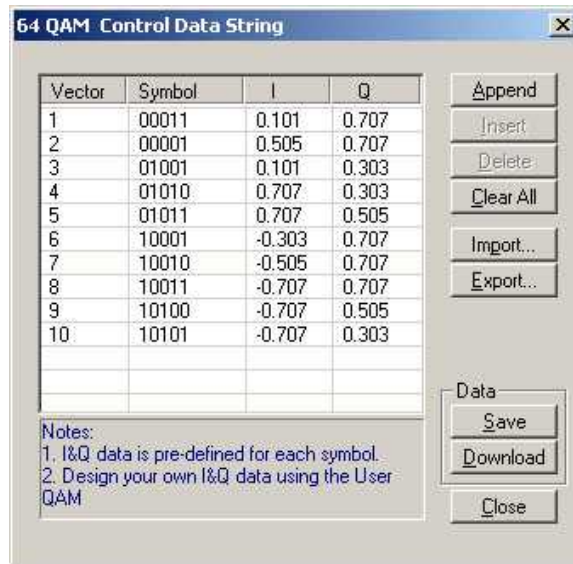

Figure 3-28, 64QAM Data Entry Table Example
**QAM Data** – provides access to the QAM data symbols. By default the table is empty so the symbols must be loaded into the table before the (n)QAM function can be used. For testing and/or demonstration purpose, a default table is available to download from the front panel however, this table must be converted for different applications. An example of the 64QAM data entry table is shown in figure 3-28.